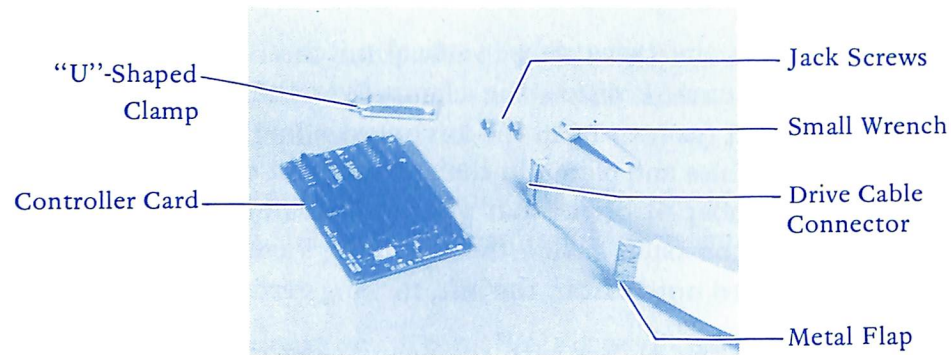

FIGURE 3 Items Required for Installation on Apple IIe
- E) Looking at the disk drive's ribbon-like cable, (Figure 3) you will note that it has a connector at its end, and a metal flap on its side. Feed the connector end through the lowest numbered opening available on the back panel of the computer. Then, find the "U"-shaped clamp and two jack screws (Figure 3) that came packed with your drive.